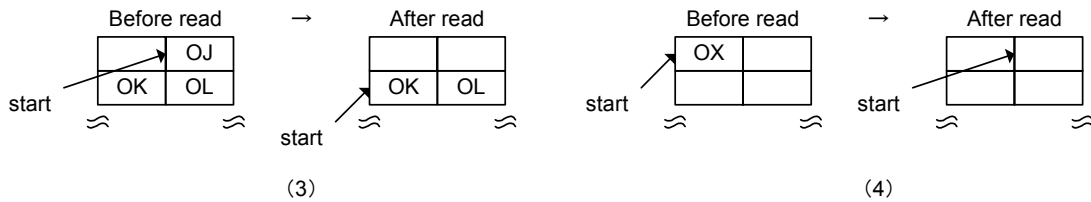

Figure 6-28 FIFO Read Processing (Operations Requiring Caution)
Shown in (3) of Figure 6-28 is the operation when data is read out wordwise using the EPnFIFO_Rd_H,L registers while a byte boundary exists. Indeterminate data is output to the High side, and data J is output to the Low side. The read pointer increments for only 1 byte of data. Shown in (4) of Figure 6-28 is the operation when data is read out wordwise using the EPnFIFO_Rd_H,L registers while no byte boundaries exist but the remaining bytes of data = 1. Data X is output to the High side, and indeterminate data is output to the Low side. The read pointer increments for only 1 byte of data.